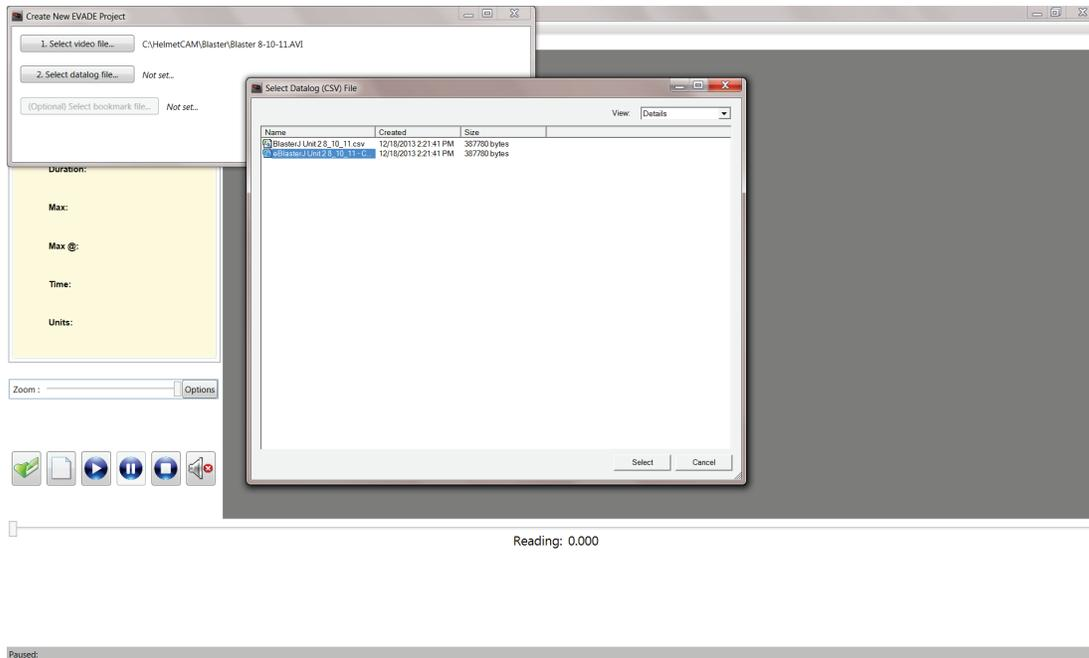

Figure 26. The Select Datalog (CSV) File dialog box allowing selection of the dust concentration data file.
3. Click the **Select datalog file...** button to open the Select Datalog (CSV) File dialog box (Figure 26). This dialog box allows selection of the dust concentration data to be used by EVADE. The available dust concentration files, in *csv* format, are listed in this dialog box. Once the proper *csv* file is selected, click **Select** to proceed. Selecting **Cancel** terminates the **Select datalog file** procedure. The next step (**Optional**) **Select bookmark file** will be highlighted.